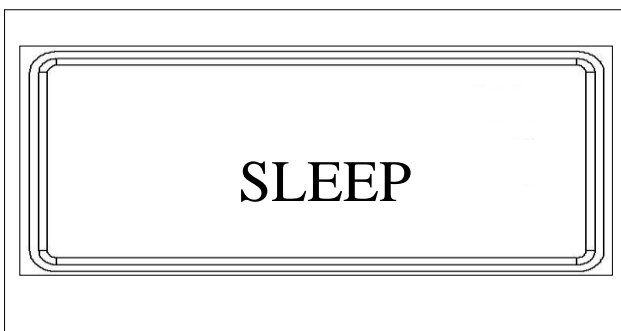

Fig.11
Other operations of the dimming knob for the BS-2076 model (Fig.11, 12 and 13)
1. Click the knob: enter standby, the screen shows "SLEEP", as shown in Fig.11. Unclick again, the screen "SLEEP" disappears, display normal working status;